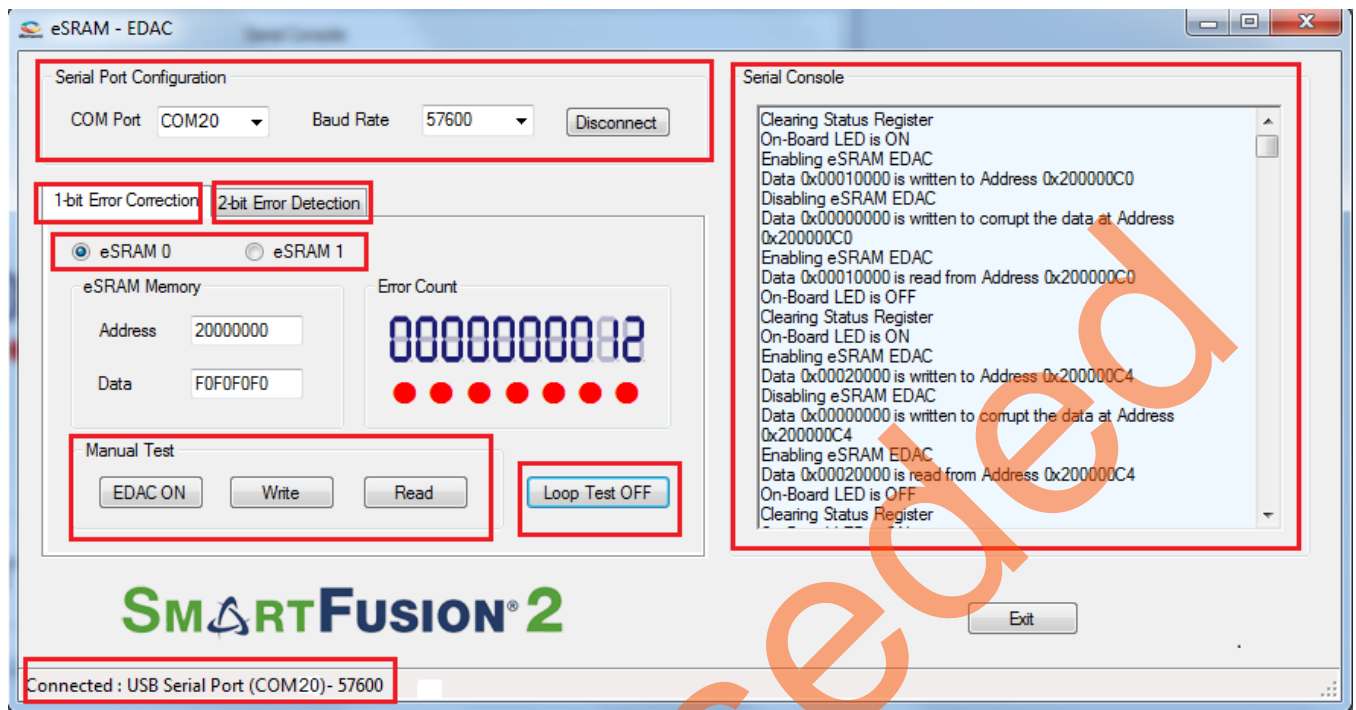

Figure 6. eSRAM – EDAC Demo GUI
4. Launch the **EDAC_eSRAM Demo** GUI executable file available in the design files (\GUI Executable\EDAC_eSRAM.exe). The GUI window is displayed, as shown in Figure 6.